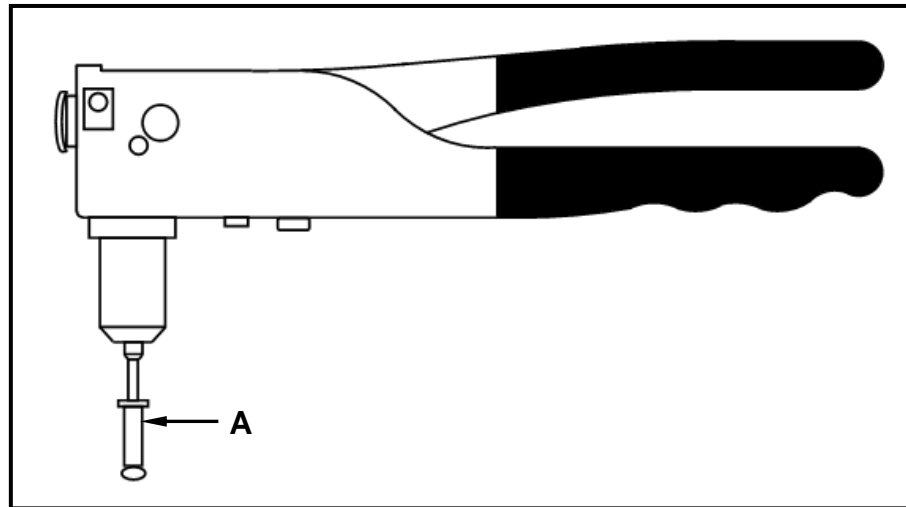

FIGURE 6.2
- D None of the above-mentioned (1)
- 6.2 FIGURE 6.2 below shows a method used to join two or more materials together. Study the drawing and answer the questions that follows.
- 6.2.1 Identify the tool illustrated in FIGURE 6.2. (1)